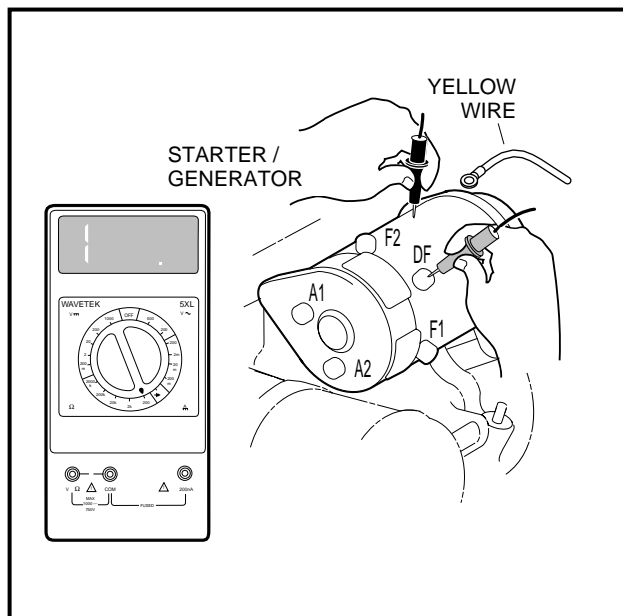

Figure 11-33 Check Starter Terminal Continuity
3. Disconnect the wires from all the terminals on the starter/generator. Then place the black (–) probe of a multimeter, set to Ω (ohms), on the starter/generator housing (scratch through the finish to ensure a good ground). While holding the black probe against the housing, place the red (+) probe (one at a time) on the A1, A2, F1, F2 and DF terminals respectively (**Figure 11-33, Page 11-29**). The readings should be **NO** continuity. If the readings are incorrect, the starter/generator will need to be removed from the vehicle and disassembled by a qualified technician. **See Starter/Generator Removal, Section 12, Page 12-2.**